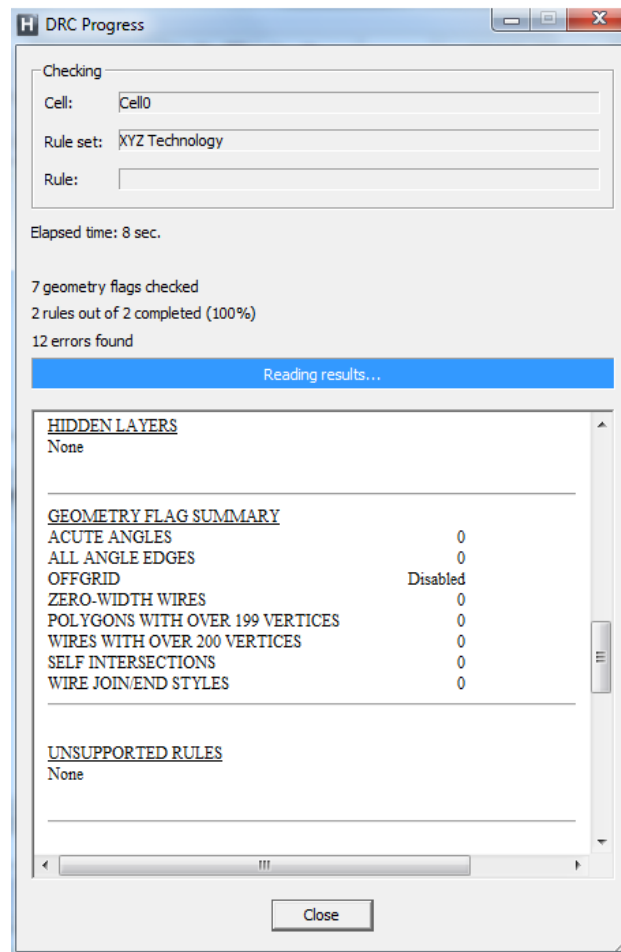

Figure 62: DRC Progress dialog
- ☑ The following dialog will be displayed while the **DRC** is running (Figure 62).